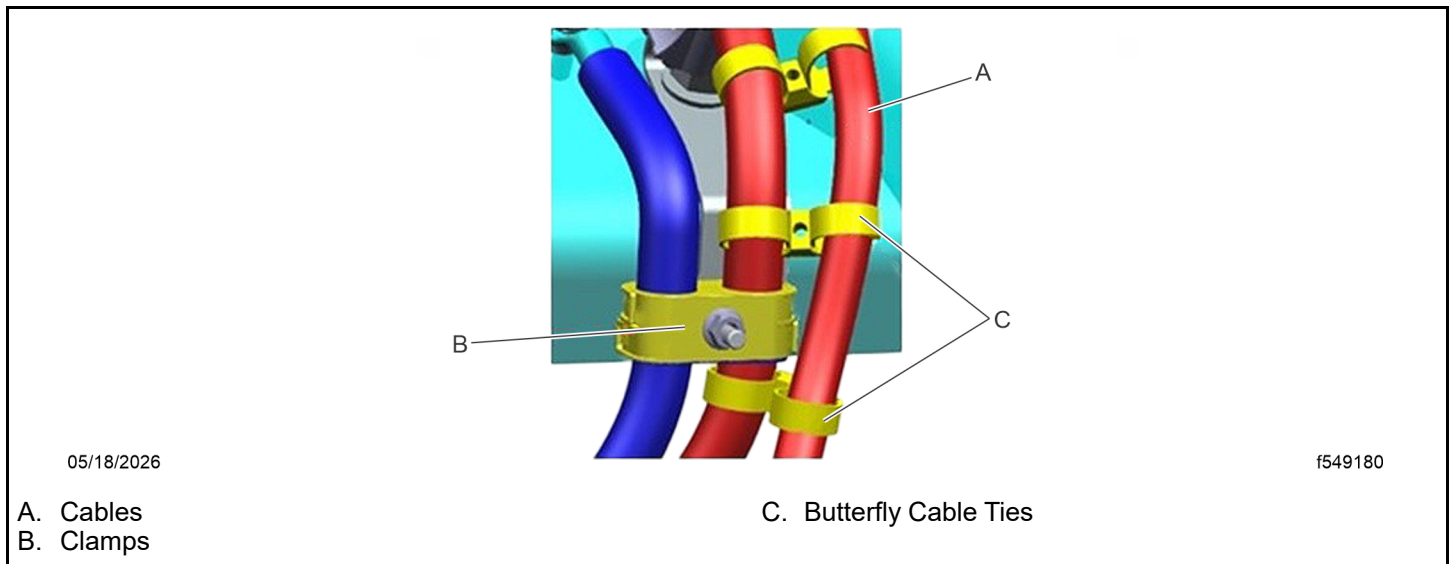

Fig 34, Butterfly Cable Ties Around the Cable Clamps
42. Install the upper and lower cable clamps on the isolator frame bracket. To prevent cables (A) from rubbing, secure any cables routed on the outside the cable clamps (B), using butterfly cable ties (C). See Fig. Fig. 34.